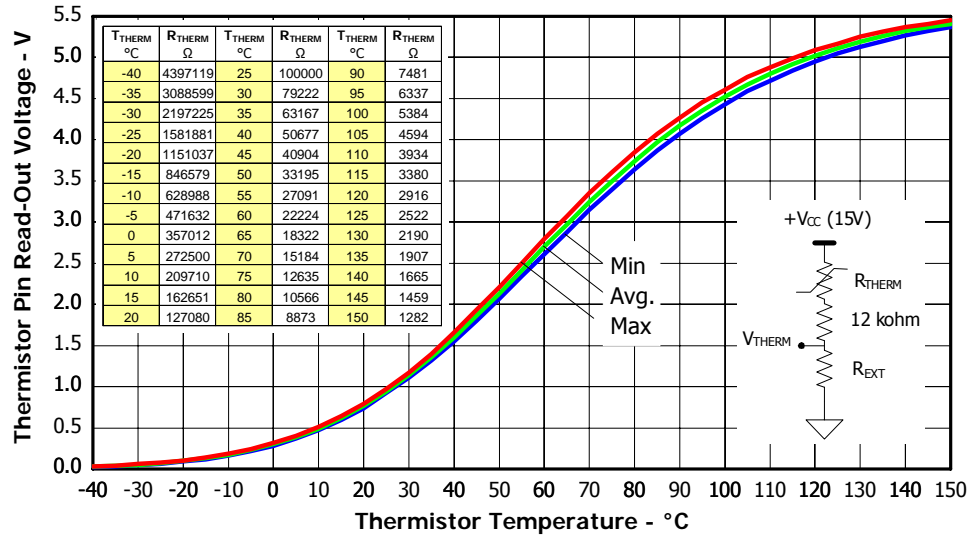

Figure 9. Thermistor Readout vs. Temperature (7.5kOhm pull-up resistor, 5V) and Nominal Thermistor Resistance values vs. Temperature Table.
3. Value of the boot-strap capacitors depends upon the switching frequency. Their selection should be made based on IR design tip DN 98-2a, application note AN-1044 or Figure 9. Bootstrap capacitor value must be selected to limit the power dissipation of the internal resistor in series with the V_{CC} . (see maximum ratings Table on page 3).